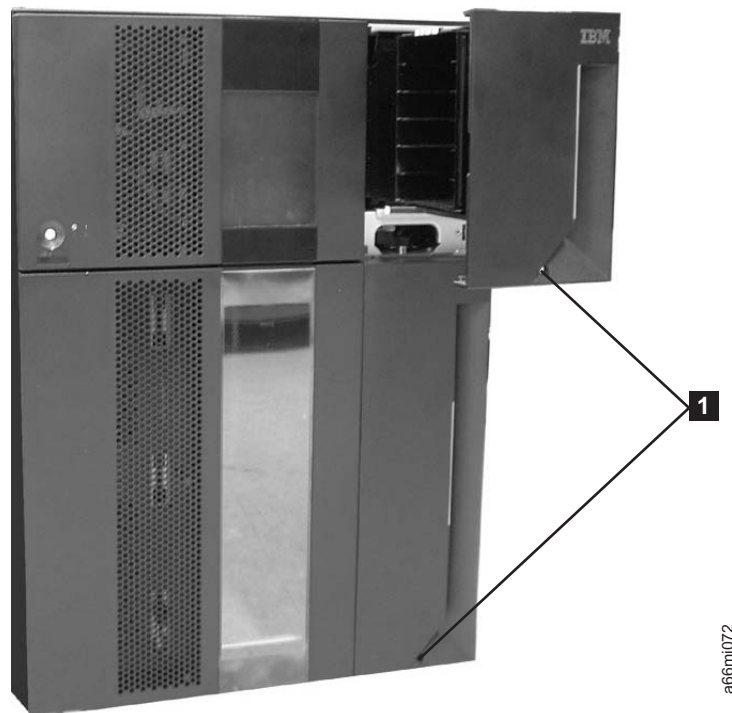

Figure 12-23. Access holes for manually unlocking I/O Station doors
There are 2 styles of I/O Station Lock mechanisms. The early style uses a T10 Torx wrench to rotate the lock mechanism. The new style has a large push-button type mechanism behind the hole (**1** in Figure 12-23) in the I/O station door.
1. Insert a T10 Torx wrench in the hole (**1** in Figure 12-23) located on the front of the I/O Station door of the library module you wish to open.
1. Insert any straight tool (screwdriver, Torx wrench, etc.) into the hole (**1** in Figure 12-23) in the front cover of the I/O station.